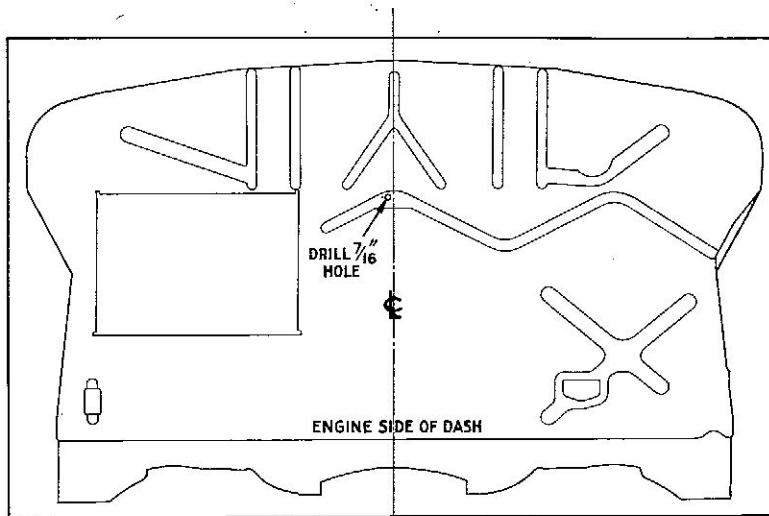

FIGURE 2
2. Drill a 7/16" hole on the engine side of the dash at the point shown in Figure 2. On the inside of the dash, cut out the cardboard (which is point pierced to provide room for the spacer). Be sure that the insulating material is cleaned away from the dash.